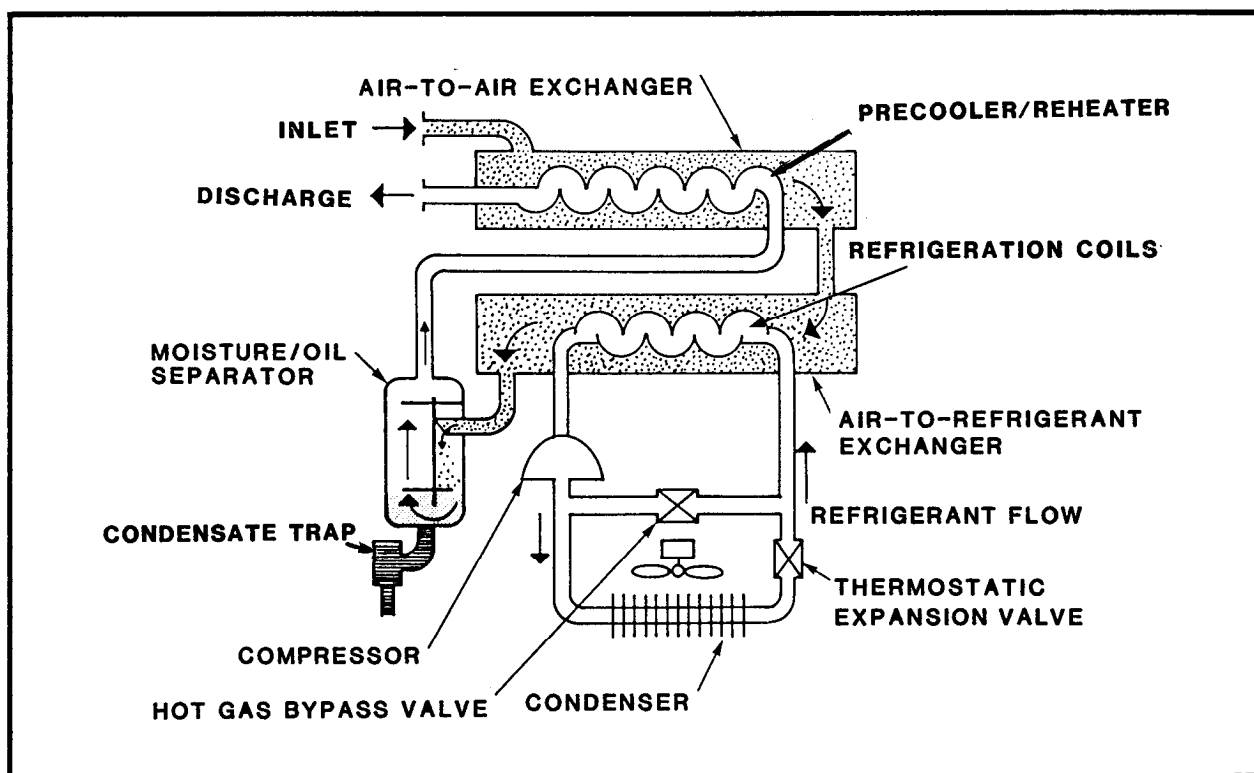

FIGURE 4-11. Flow Diagram of Refrigeration Dryer
2.3 Refrigeration Type. Dryers that remove moisture from the air by condensation incorporate a mechanical refrigeration unit (figure 4-11) or cold water, if available. Inlet air passes through the precooler/reheater to the air-to-refrigerant exchanger which contains the refrigeration coils. As the air passes over the coils, further cooling takes place and moisture condenses into droplets. The droplets of oil or water then pass through the moisture/oil separator and are collected and drained through a condensate trap. The cool, dry air is then directed back through the precooler/reheater, warmed by the incoming air and discharged for reuse by the system.